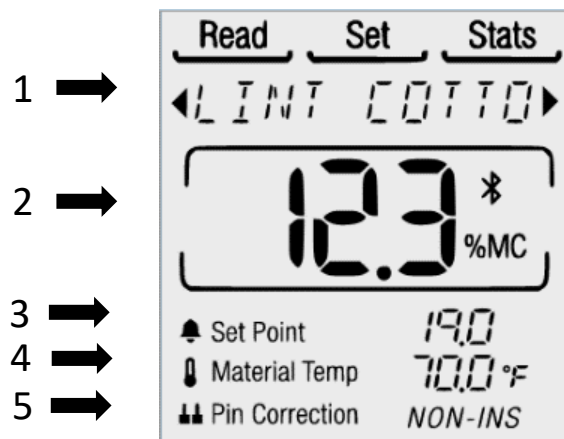

Figure 2: Read screen components
**Info:** The live reading area displays the moisture value (%MC) of the selected material, corrected for Material Temperature (4) (see Figure 2 above).